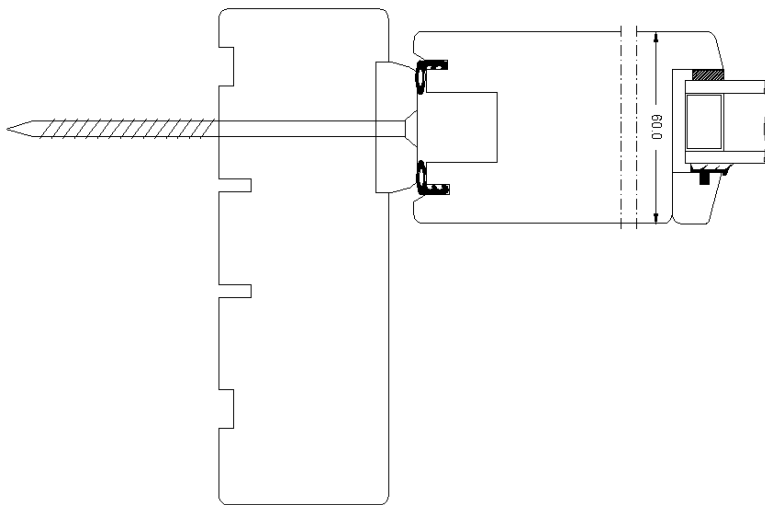

Figure 1
1. It is important that the screws are fitted directly into the frame and directly into the wall (figure 1 - above), Straps are not allowed to fit this type of door
3. Screws in the frame are fastened as shown in Fig 1